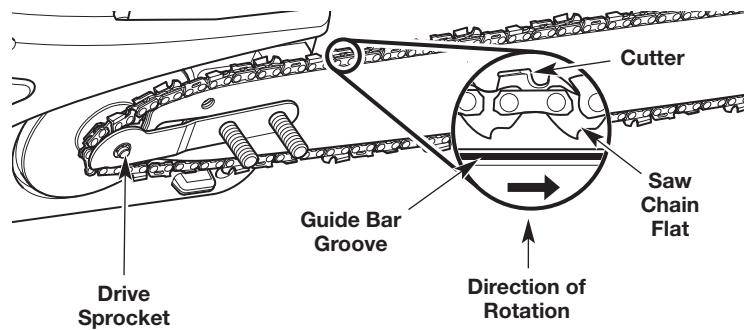

Fig. 29
5. Loop the saw chain around the drive sprocket and fit the saw chain into the guide bar groove (Fig. 29). Make sure the flats on the saw chain are in the grooves on the drive sprocket. Make sure the cutters point in the correct direction of rotation (Fig. 29).